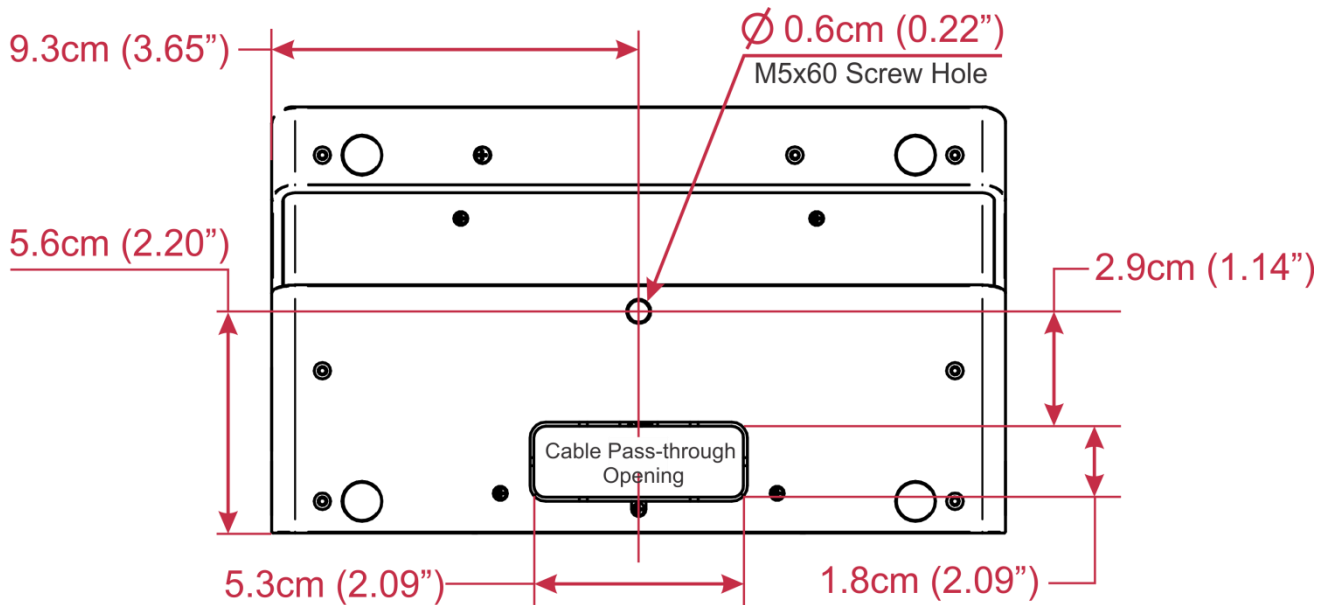

Figure 6: Cut-Out Dimensions
The cut-out dimensions in Figure 6 are **not to scale**.
2. Drill a hole in the table and cut the cable pass-through opening with a saw according to the dimensions shown in Figure 6 (not to scale).